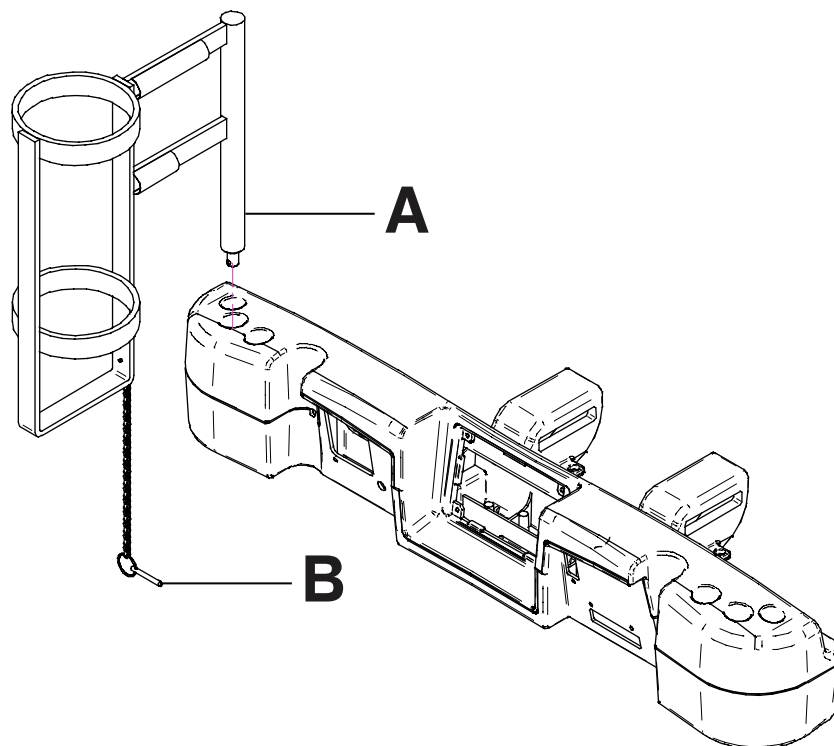

Figure 125: Upright oxygen bottle holder
1. Insert the support bar into the socket at the head end or foot end of the product on either side (A) (Figure 125 on page 104).
2. Insert the security chain pin (B) through the support bar hole (Figure 125 on page 104) to secure the bottle holder to the product.